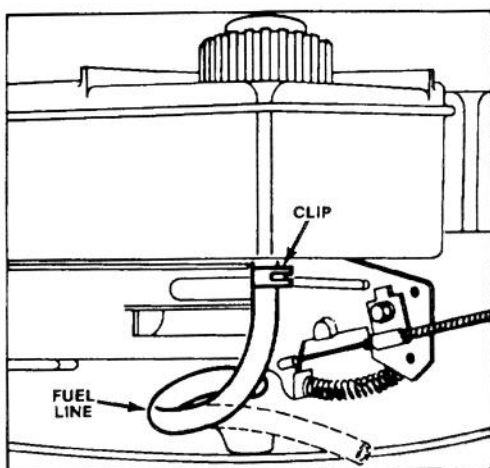

Figure 17
2. Squeeze ends of fuel line clip (Fig. 17) and slide clip down fuel line. Carefully pull fuel line off fitting and allow gasoline to flow into drain pan (Fig. 17).